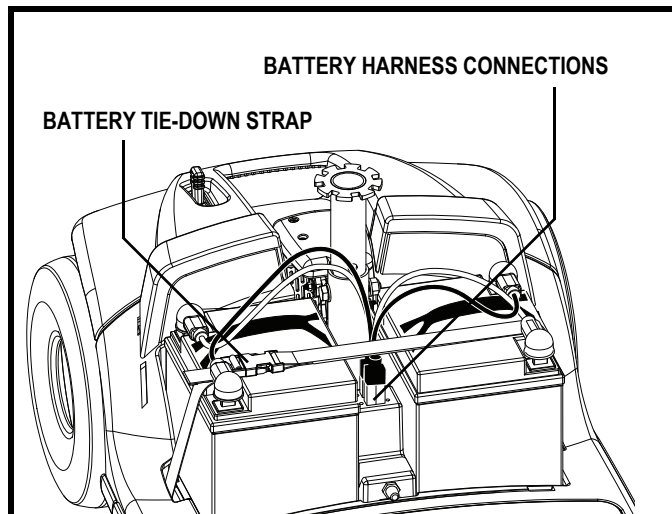

Figure 21. Harness Connections
4. Unplug both battery harnesses by pulling each harness straight up. **See figure 21.**
6. Connect both battery harnesses. **See figure 21.**